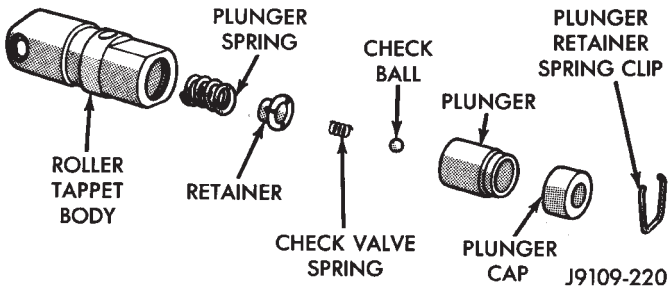

Fig. 71 Hydraulic Roller Tappet Assembly
(1) Pry out plunger retainer spring clip (Fig. 71).
(2) Clean varnish deposits from inside of tappet body above plunger cap.
(3) Invert tappet body and remove plunger cap, plunger, flat or ball check valve, check valve spring,
(4) Clean all tappet parts in a solvent that will remove all varnish and carbon.
(5) Replace tappets that are unfit for further service with new assemblies.
(6) If plunger shows signs of scoring or wear, valve is pitted, or valve seat on end of plunger indicates any condition that would prevent valve from seating, install a new tappet assembly.
(7) Assemble tappets (Fig. 71).